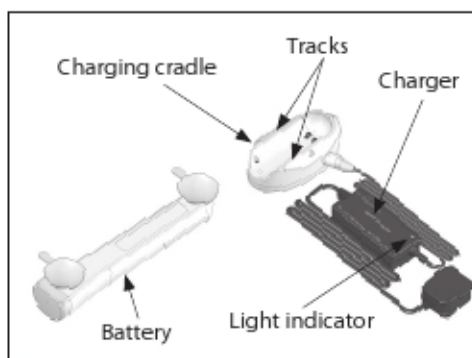

Figure 1
**1. Charge the battery** by sliding it into the tracks on the charging cradle (**fig 1**) and plugging it into a power socket/outlet.